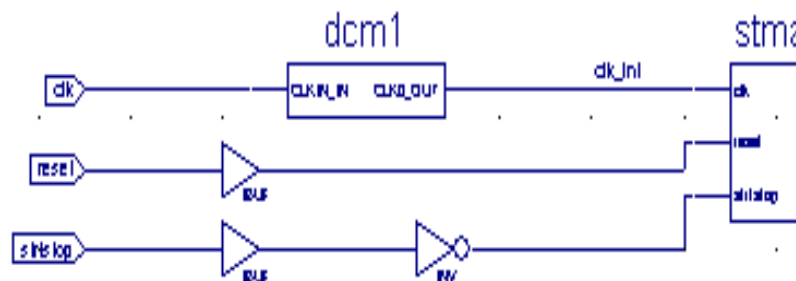

Figure 3-36: Labeled Nets with I/O Markers
- Place the name on the leftmost end of the net as illustrated in Figure 3-36.